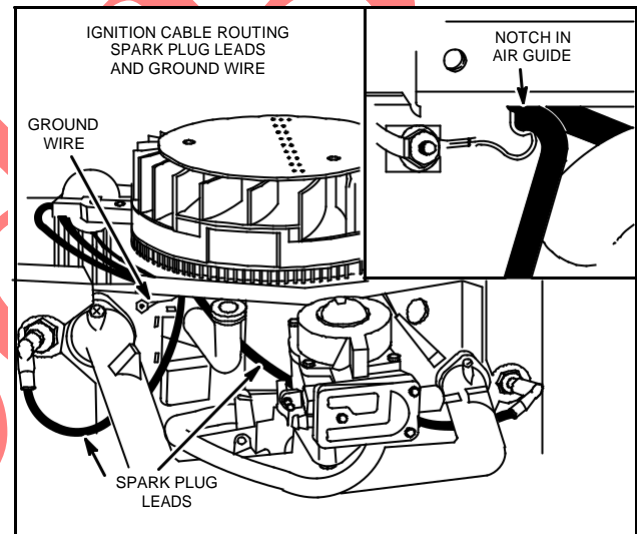

Fig. 25 – Wire Routing
1. Route the spark plug leads and ground and primary (breaker point engines) wire through the notch in air guide, # 1 cylinder side, Fig. 25.